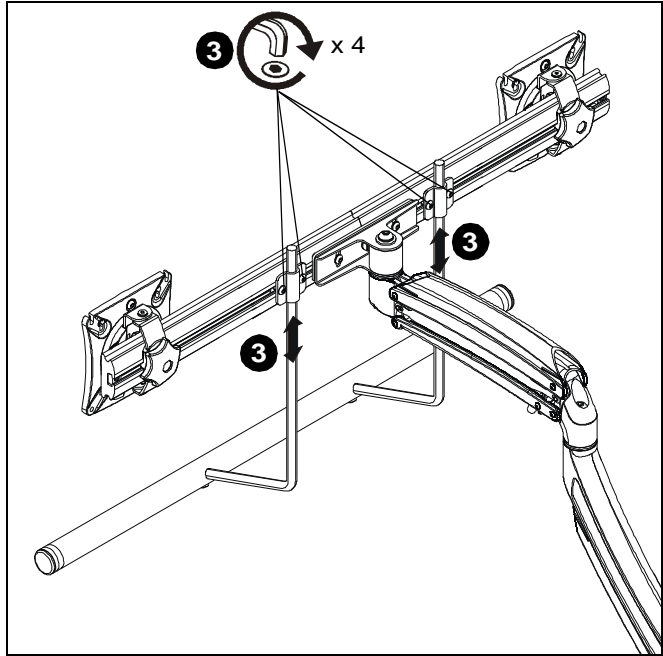

Figure 11
3. Position handle (J2) at desired height and secure by tightening button head cap screws attaching handle brackets to array. (See Figure 11)